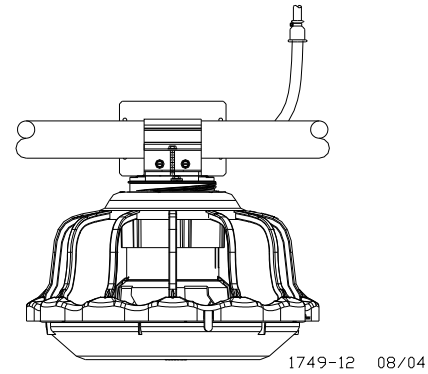

Figure 79. Installing the Sensor Plus Mid Line Control
- a. Assemble the Mid-Line Control over the outlet hole in Tube as shown in **Figure 79**.